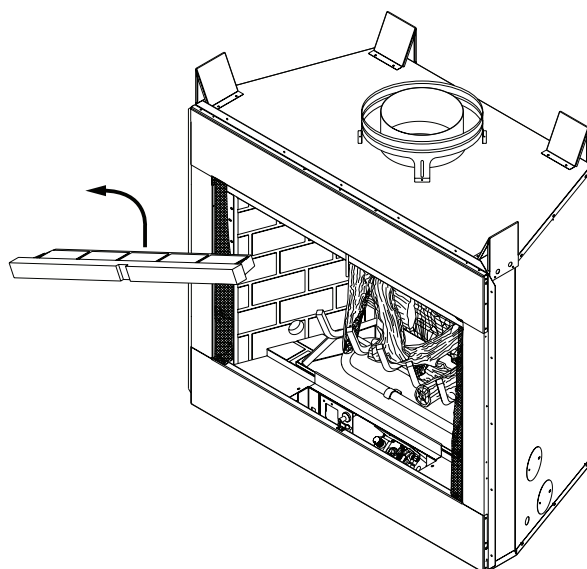

Figure 13 - Removing Front Refractory Access Panel
1. Remove front refractory access panel by lifting up and angling out of firebox opening (see Figure 13).
1. Remove front refractory access panel by lifting up and angling out of firebox opening (see Figure 13) to expose controls.